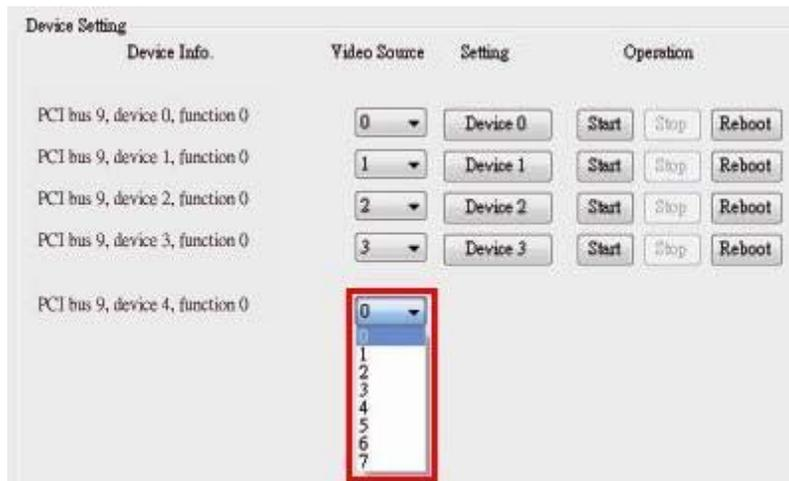

Figure 2-9: Select Transmitter Device for HDC-304E
- Step 4:** **This step is only required for the HDC-302E.** Select the transmitter bus (0 or 1) (**Figure 2-9**). For example, to view the video input source 1 on HDMI display device, select the transmitter bus 0. Please refer to the following table:
Step 5: This step is only required for the HDC-304E. Select the transmitter bus from 0 to 3 (Figure 2-9). For example, to view the video input source 1 on HDMI display device, select the transmitter bus 0. Please refer to the following table: